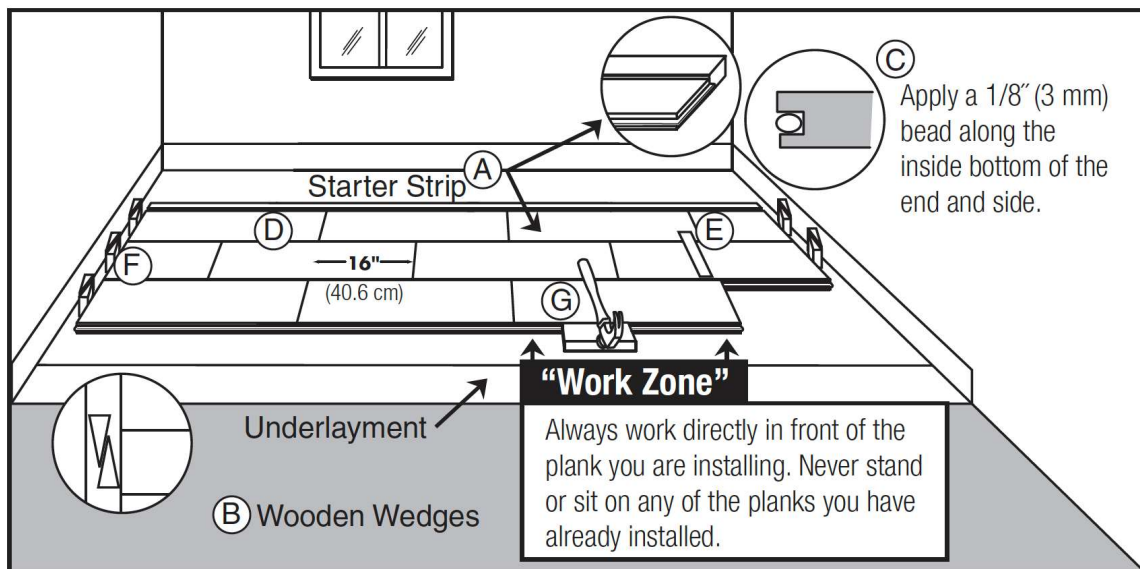

Figure 14
- Select the first board. All installations should begin with the groove side against the wall using the longest boards available. Apply a continuous 1/8" (3 mm) glue bead to the inside bottom of the groove on the end of the board. Do not apply glue to the groove side at this time (**Item C, Figure 14**). Products with the end tongue on the left should be installed right to left, opposite tongues should be left to right. (**Item D, Figure 14**). If a sacrificial board was used remove it **DO NOT** glue the first row to it.
1/2" (13 mm) expansion space. Avoid installation of any boards shorter than 16" (40.6 cm) in the first four rows. (**Item F, Figure 14**).
- Use a pull bar to pull the last board into place from the opposite end. Install wedges into the gap and tighten (**Item B, Figure 14**). If any glue gets on the surface of the flooring, wipe off immediately with a clean damp cloth.
- Cut or use a shorter board for the first board of the second row. Start the second row by applying a 1/8" (3 mm) bead along the inside bottom of the end and side groove of the new board. Install the first board of row two. Apply a bead of glue to the inside bottom of the end and side groove of the next board and install. When installing boards together, use a tapping block against the tongue, not the groove (**Item G, Figure 14**). Tap the boards into place by tapping with a hammer on the tapping block. **DO NOT** tap on the edge directly with the hammer. Complete the second through fourth rows using this technique. Insert wedges on the ends, as necessary, to restrain the movement of the floor.